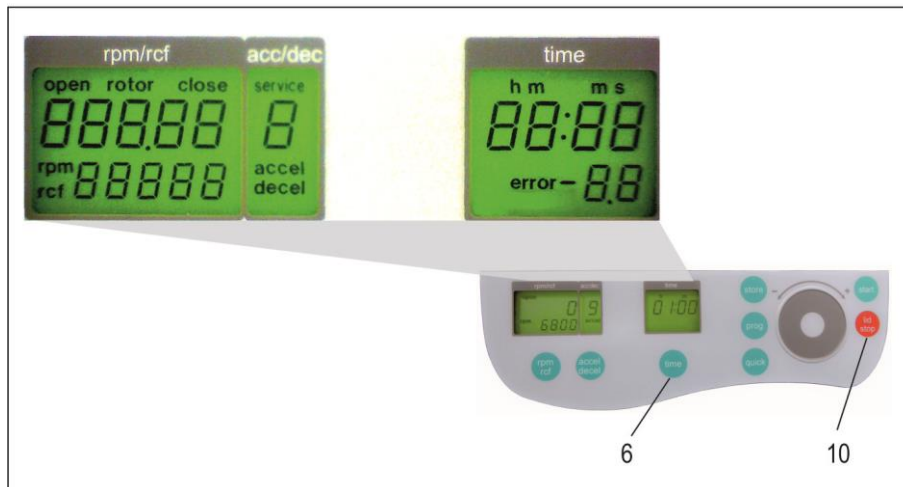

Figure 2
Switch on the unit and open the lid. Now simultaneously press the keys, "lid/stop" (10) and "quick"(8). In the display, "rpm/rcf" (A-1), appears the previously selected rotor type, i. e. "221.59". Now the buttons can be released. With the controle field (1), choose the previously used rotor, (see Figure 2). Select the data in the unit and press the "start" (9) or "store" key. Inside the display, (A-1), the word "store" appears, as the confirmation.
Open the centrifuge lid and shut off the main switch. Now switch on again the main switch. For approximately 3 seconds "Z 207 A" will be shown in the display. Press during this time the keys "time" (6) and "lid" (10) simultaneously. As a result, a display test is administered for approx. 3 seconds. All possible indications will appear at the same time (see Figure 2).